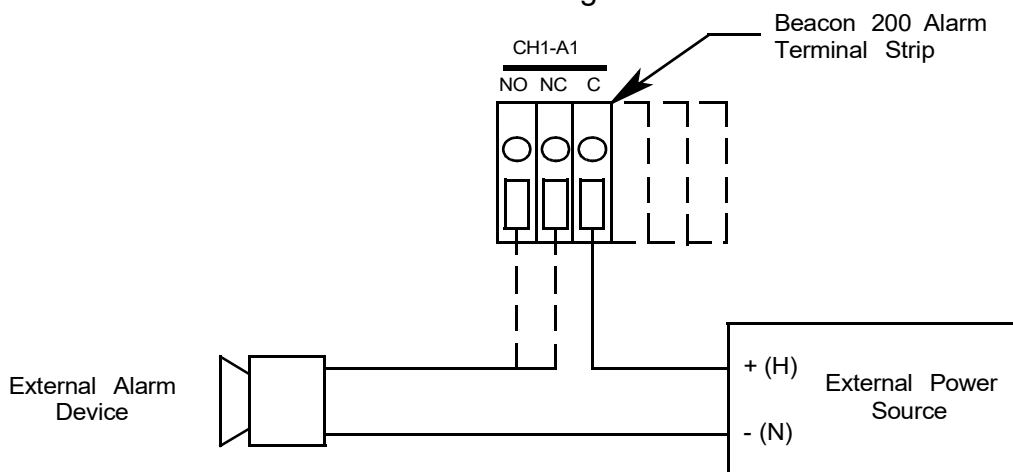

Figure 9. Typical External Alarm Wiring
5. Connect the leads from the external alarm device and power to the alarm terminals as shown in Figure 9.